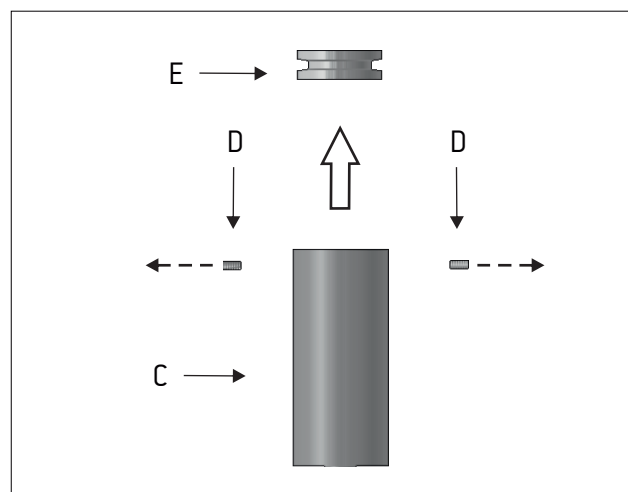

Figure 3
3 - Unscrew the studs (D) from the canopy of the lamp (C) to release the mounting bracket (E). Figure 3.